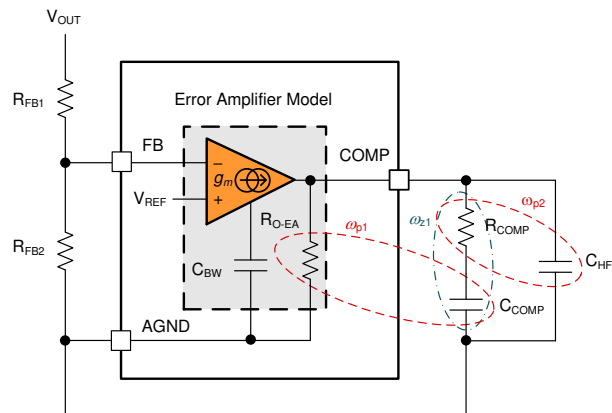

Figure 9-4. Error Amplifier and Compensation Network
Figure 9-4 shows a type-II compensator using a transconductance error amplifier (EA). The dominant pole of the EA open-loop gain is set by the EA output resistance, R_{O-EA} , and effective bandwidth-limiting capacitance, C_{BW} , as shown by Equation 29.